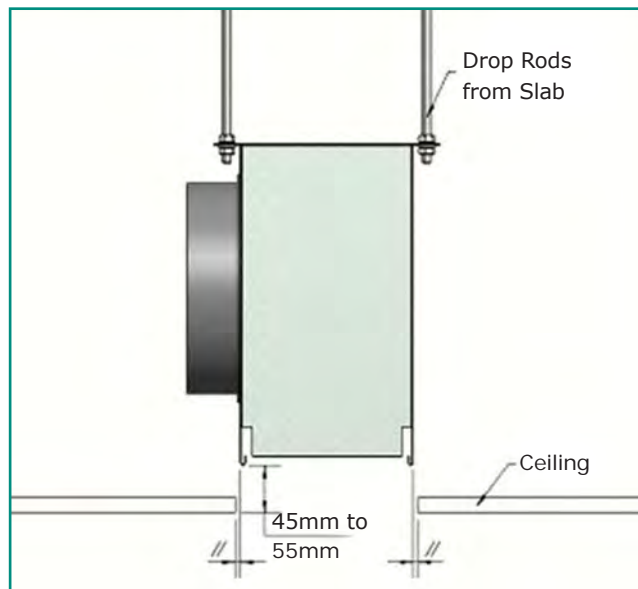

Figure 1- Plenum installation detail
- 3- Check that the plenum box is level and aligned with the ceiling opening, ensuring that the distance from the bottom of the hem to the ceiling face is within the 45 to 55mm range (Figure 1). When this has been achieved, tighten the locknuts to secure the plenum position.